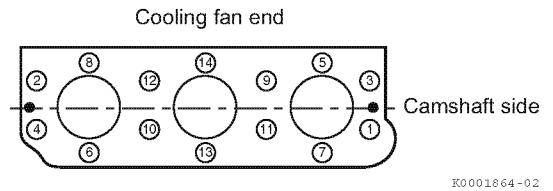

Figure 6-9
1. Loosen the cylinder head bolts following the sequence shown in Figure 6-9.